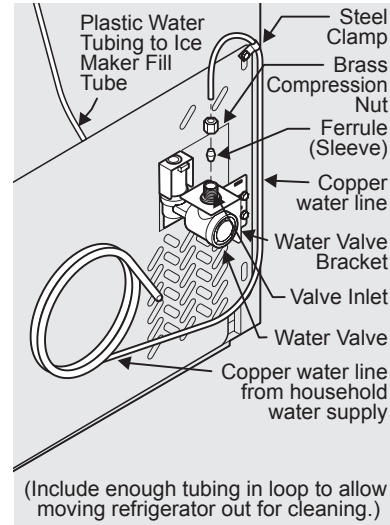

Figure 1
4. If you use copper tubing - Slide brass compression nut, then ferrule (sleeve) onto water supply line. Push water supply line into water valve inlet as far as it will go ( $\frac{1}{4}$  inch / 6.4 mm). Slide ferrule (sleeve) into valve inlet and finger tighten compression nut onto valve. Tighten another half turn with a wrench; DO NOT over tighten. See Figure 1.